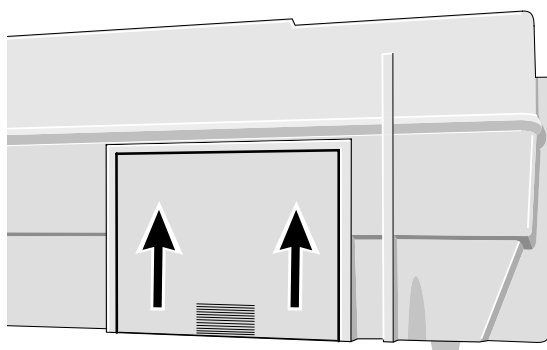

Figure 3-3. Inserting the battery
- * Check that the battery is in place (Figure 3-3).